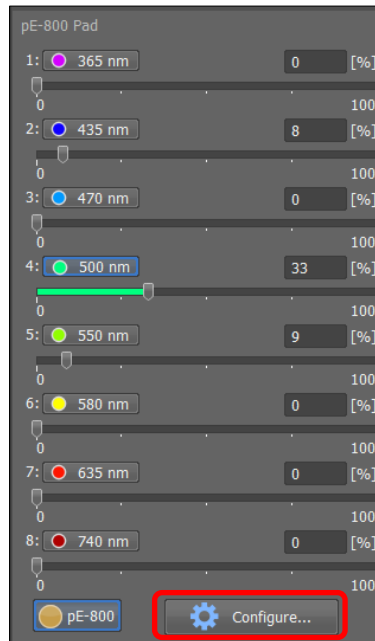
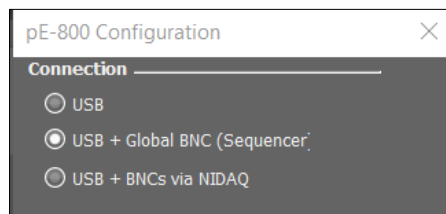

Figure 6: Click 'Configure...' (red box) to open the pE-800 Configuration window
Figure 7: Enter Sequencer (Sequence Runner) mode by selecting USB + Global BNC (Sequencer)
3. To enter Sequencer (Sequence Runner) mode, scroll down the pE-800 Pad and click 'Configure...' (Figure 6).
4. When the pE-800 Configuration window opens, from the 'Connection' menu, select 'USB + Global BNC (Sequencer.)' (Figure 7) and close the Configuration window.
14. To exit Sequence Runner mode, select USB from the configuration window (Figure 6, Figure 7).